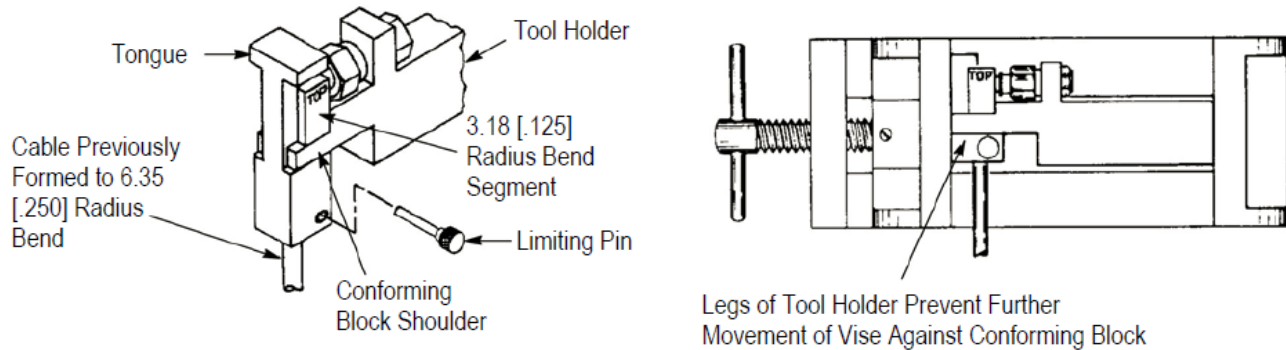

Figure 16
4. Place the conforming block over the cable with the tongue of the block in the slot of the tool holder, as shown in Figure 16.